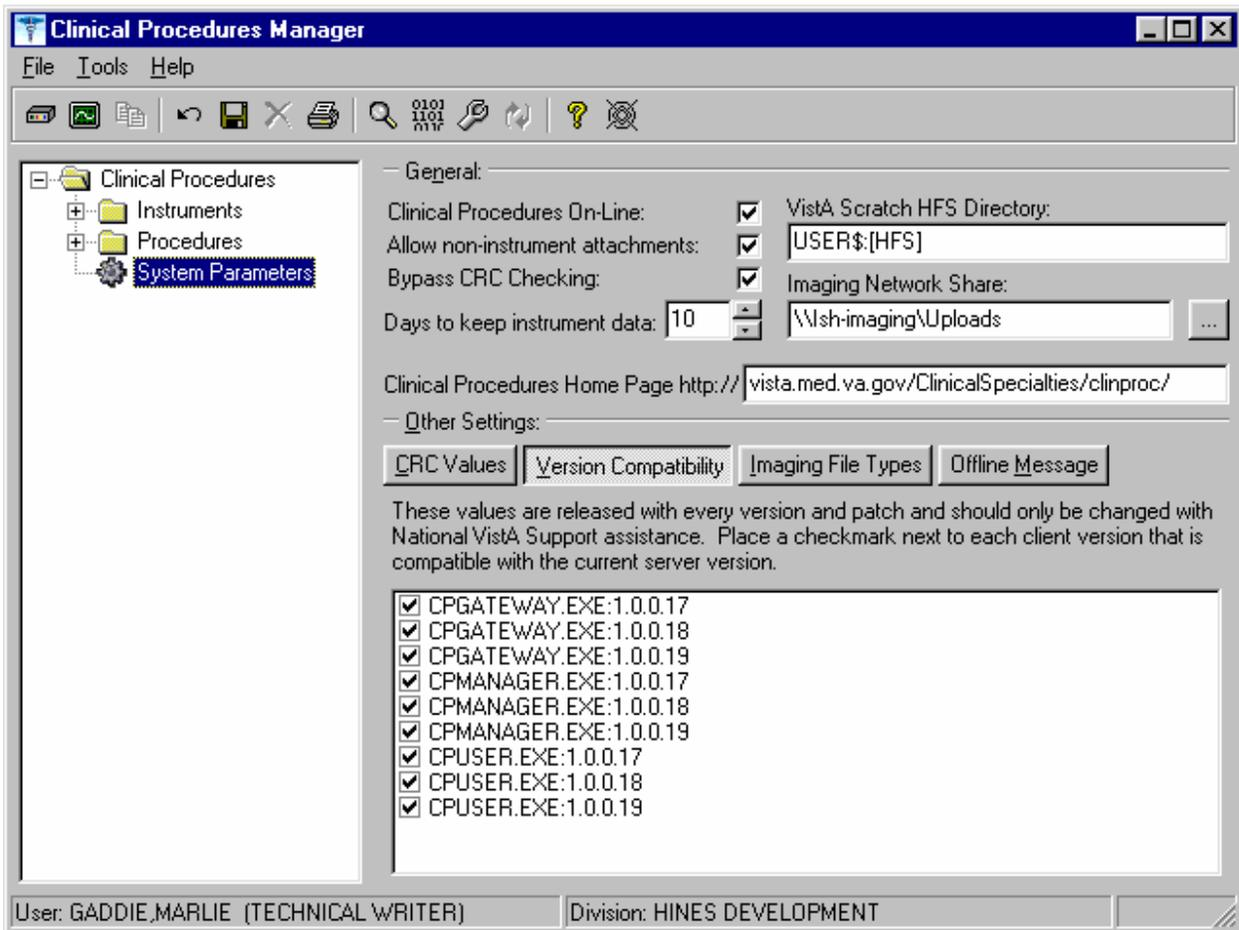

Fig. 6-13
Displays a list of client versions, identified by their executable name and windows file version, which are compatible with the currently running server version. More than one version of the software may be flagged as compatible for backward compatibility. See Figure 6-13.
5. In the **Version Compatibility** tab, select each version that is compatible with the current server version, (Fig. 6-13).